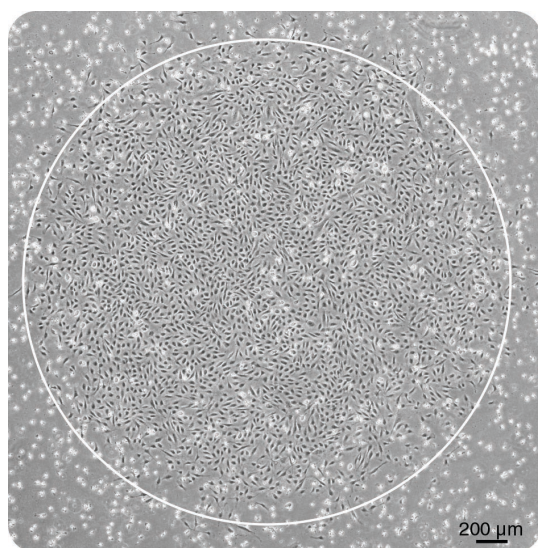

Figure 1. ECFC Colony at Day 11 Obtained Using Complete EC-Cult™ Medium
- d) Observe the wells under a microscope. Refer to Figure 1 for an image of an ECFC colony at Day 11.